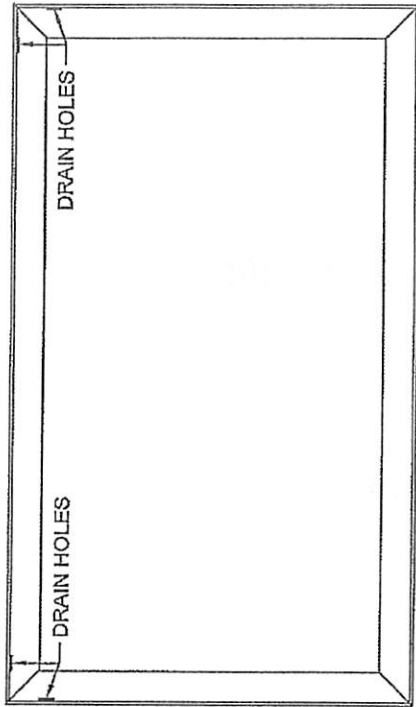

FIGURE 7
6) MAKE SURE TOP OF HEADER BEAMS ARE CLEAN AND CLEAR OF DEBRIS. WITH DRAIN HOLES TO REAR OF SHELTER SET THE ROOF MODULE ONTO SHELTER WALL SECTIONS (FIGURE 7).